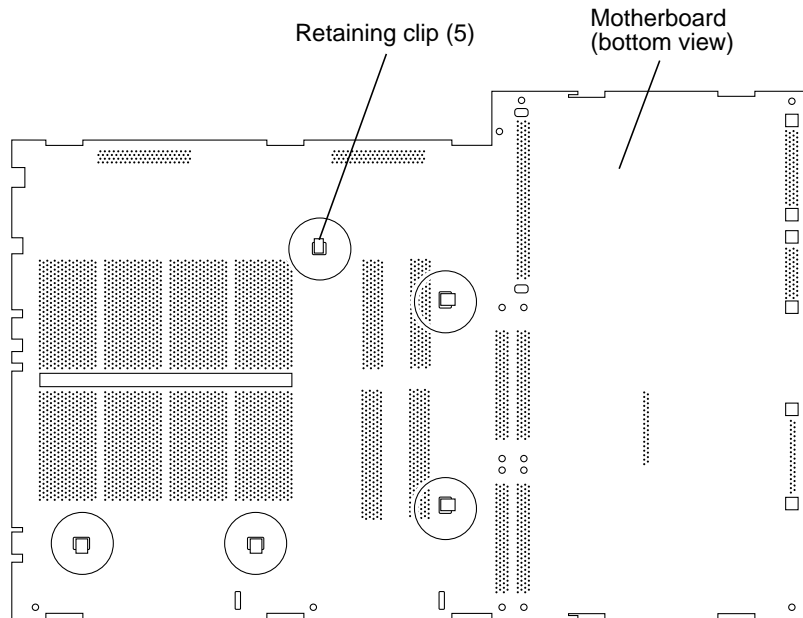

FIGURE 8-5 Shroud Assembly Removal
- 7. Flip the motherboard over. Dislodge the five retaining clips securing the shroud assembly to the motherboard (FIGURE 8-5).**
1. **Replace the shroud assembly as follows (FIGURE 8-5):**